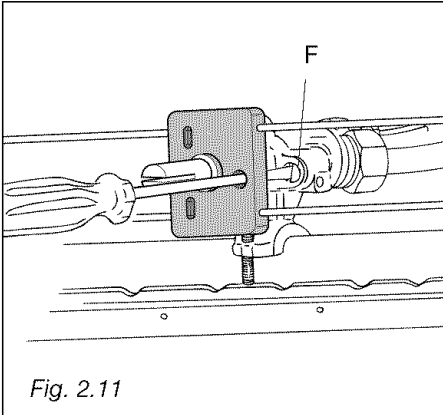

Fig. 2.11
- With a thin screwdriver pass by the hole of microswitch and turn the screw **F** until adjustment is correct (fig. 2.11).